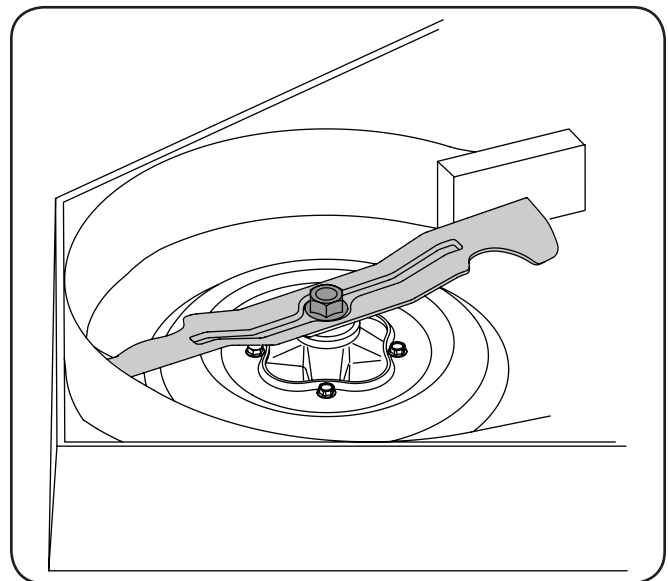

Figure 7-10
- Use a $1\frac{5}{16}$ " wrench to hold the hex nut on top of the spindle assembly when loosening the hex nut securing the blade. A block of wood may be placed between the deck housing and the cutting edge of the blade to help in breaking loose the hex nut securing the blade. See Figure 7-10.